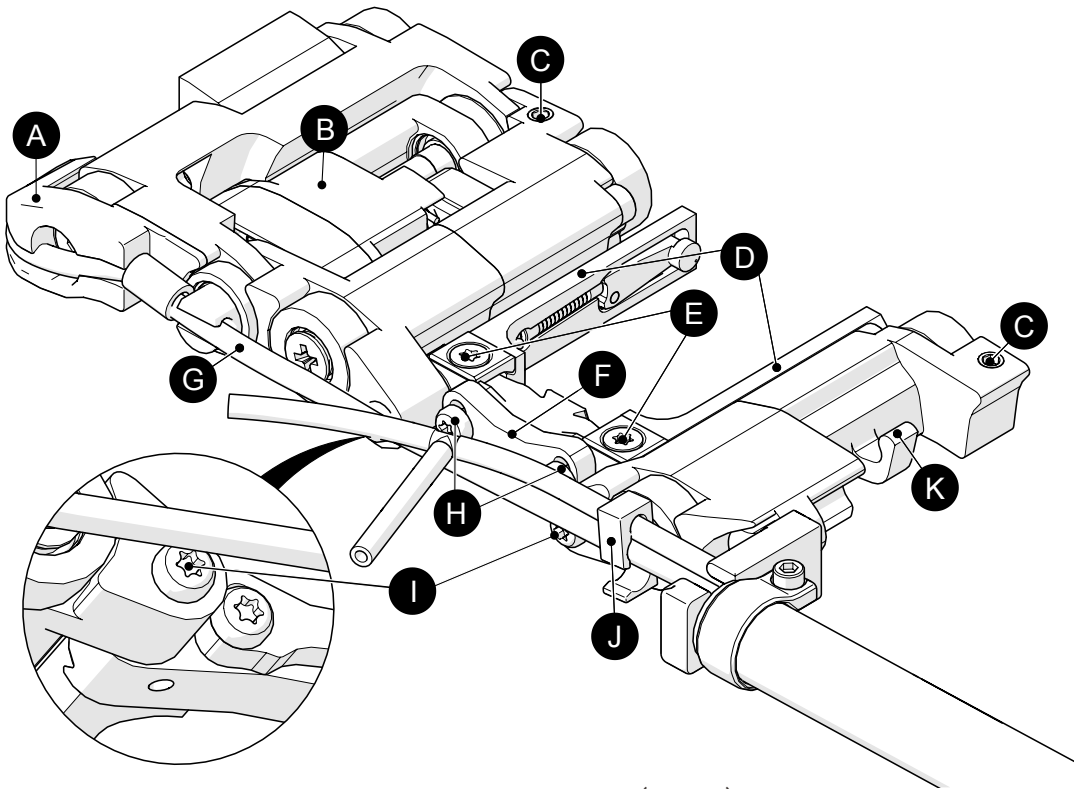
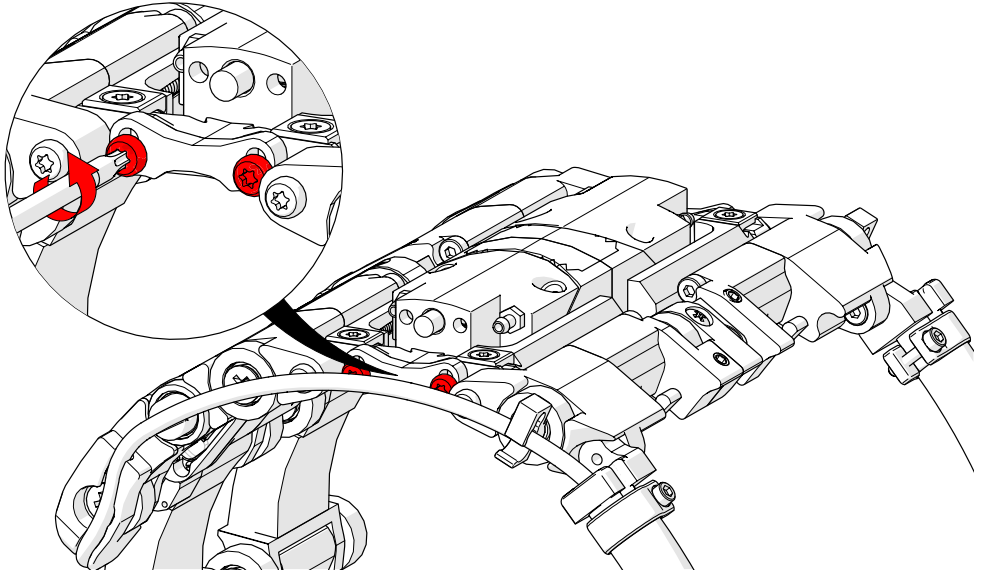
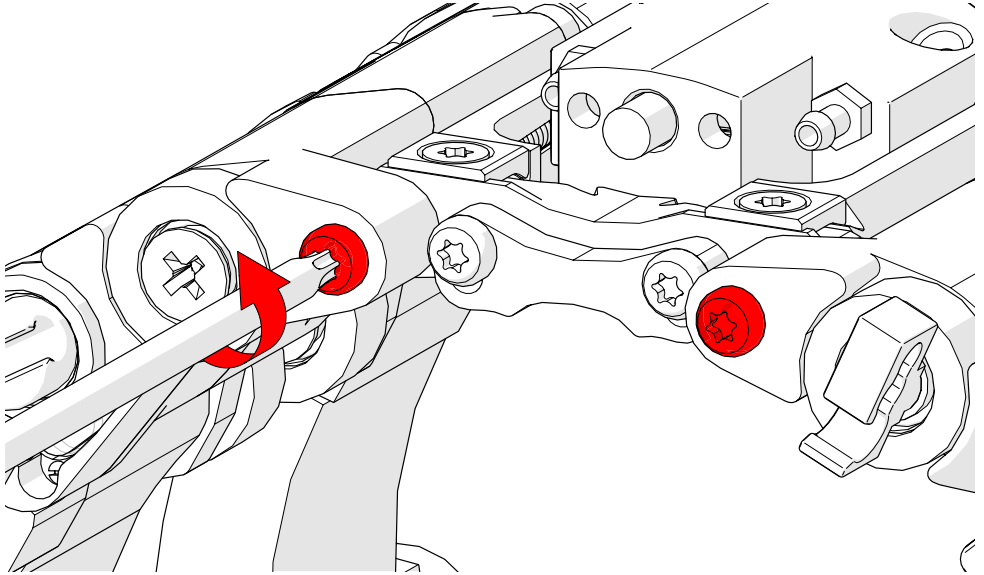
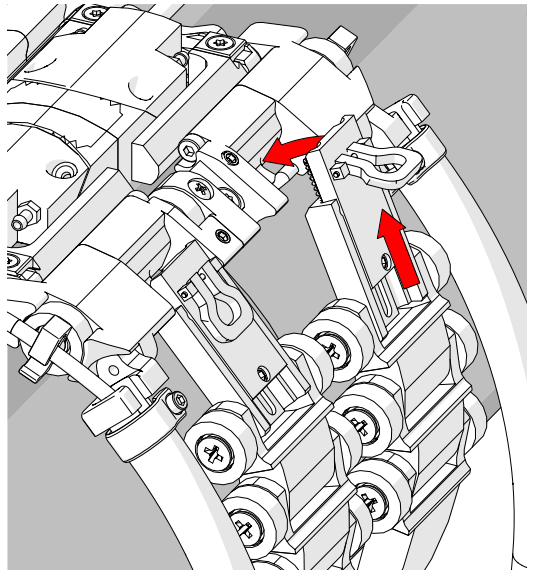

Fig. 27 - Scanner component identification (single side)
Fig. 34 - Loosen the setup tab screws
Fig. 37 - Loosen pivot adjustment screws
Fig. 39 - Pull and fasten latches
4. Loosen the two screws (Fig. 27-H) on either side of the setup tab (Fig. 27-F), do not remove these screws, a 1/4th turn should be sufficient. Perform this task on both sides of the scanner (Fig. 34).
7. Loosen the pivot adjustment screws (Fig. 27-I) of the scanner 1/8th of a turn (Fig. 37).
9. Bring the scanner body around the pipe/tube. Pull and fasten latches (see *Latch Connection on page 40*) to the latch hooks (Fig. 27-K) of the scanner. (Fig. 39). Ensure the latch is in the flat position prior to scanning.
Low clearance scanning on diameters smaller than 31.75 mm (1.25 in) may require removal of the encoder cable guard (Fig. 27-A).